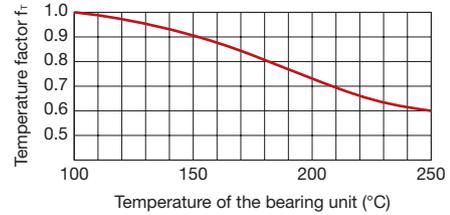

Fig. 1 Temperature factor (f_T)
- f_T : Temperature factor (see Fig. 1)
* The basic dynamic load rating (C) of model RW shows the radial load with interlocked direction and magnitude, under which the nominal life (L) is 1 million revolutions when a group of identical model RW units independently operate under the same conditions. The basic dynamic load rating (C) is indicated in the specification tables.